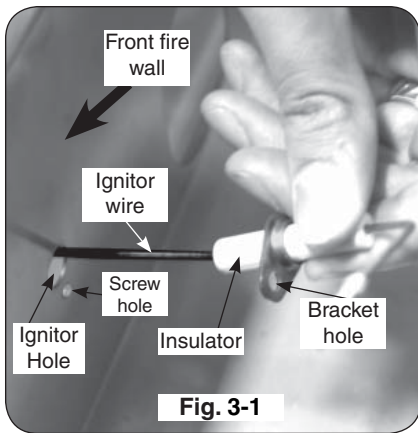
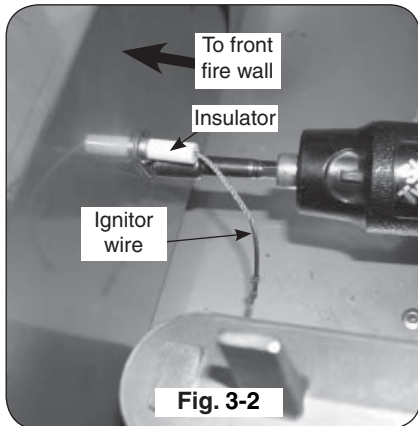

Fig. 3-1
Fig. 3-2
1. Locate the new ignitor wire with the insulator attached and thread the wire end through the hole in the oven fire wall left by the old ignitor, from the oven side as shown in Fig. 3-1. Continue to thread the wire end through the insulator tube in the manifold fire wall and through the slot in the heat shield, then route it toward the ignitor module on the right. (Hint: wrap around existing wire bundle.)
3. Attach the insulated portion of the ignitor wire to the inside of the oven fire wall by placing the screw (included) through the bracket hole and into the hole in the fire wall (see Fig. 3-1 and Fig. 3-2).